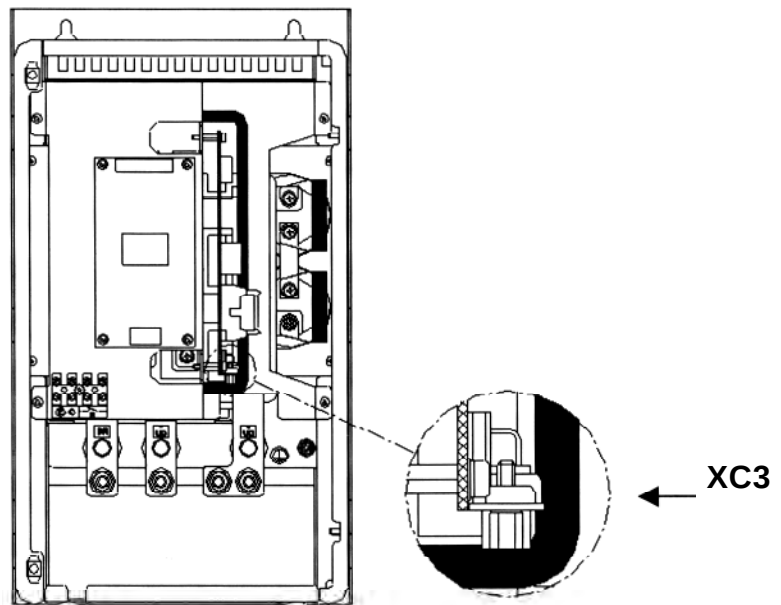

Figure 8.33 - Location of the XC3 connector
- ☑ The control connection between the CFW-09 and the braking module is made through a cable (0307.7560). One end of this cable is connected to the XC3 connector that can be found at the CRG4 board (refer to figure 8.33) in the braking module. The other end of this cable is connected to a DB9 connector that is fastened to a metallic support at the side of the control board in the CFW-09.